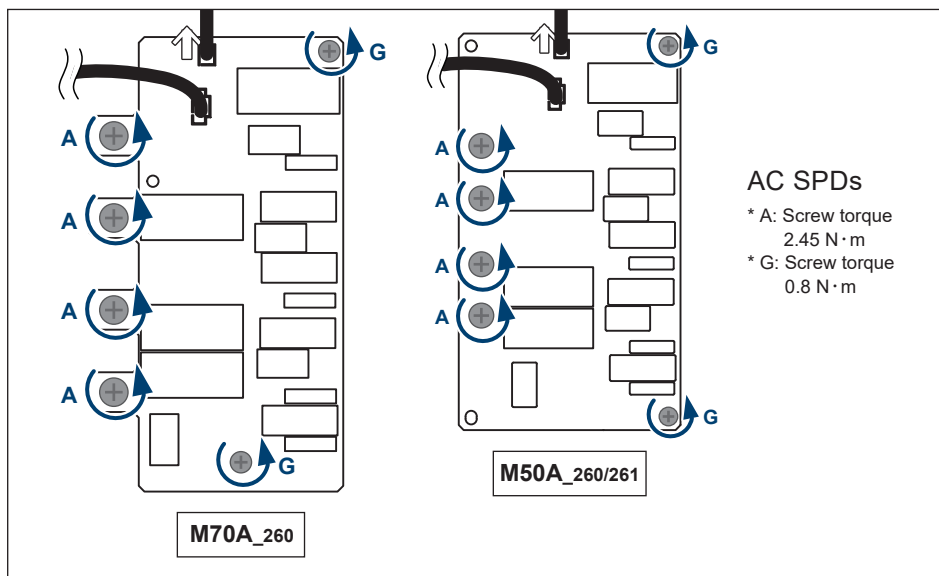

Figure 5-6: Remove wirings as connectors of AC SPD
- **To remove the defective AC SPD (Figure 5-6)**
Tighten the 6 screws to a torque value shown in **Figure 5-6**.